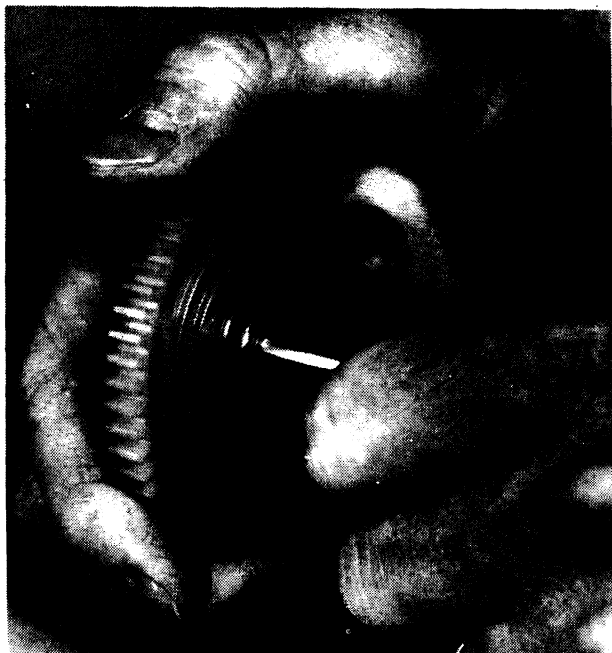

Figure 3. Checking for Loose Electrode
5. If the gear is the uninsulated type (no nylon washer) inspect the gear for a loose electrode. Grasp the gear firmly in one hand and alternately exert clockwise and counterclockwise force against the electrode with maximum hand pressure. This should be done in a manner that would attempt to pivot the electrode around the axle (see figure 3). If any movement is detected between the electrode and the gear, the gear must be discarded and replaced with a new, serviceable gear.